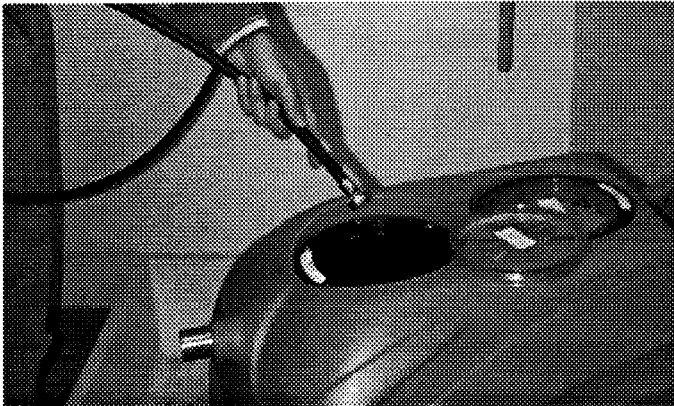

FIG. 1
1. Unscrew and remove front clear lid. Fill clean water bladder with 15 gallons of hot water, (140°F, 60°C max.). Add recommended cleaning agent to proper dilution ratio. (Figure 1)